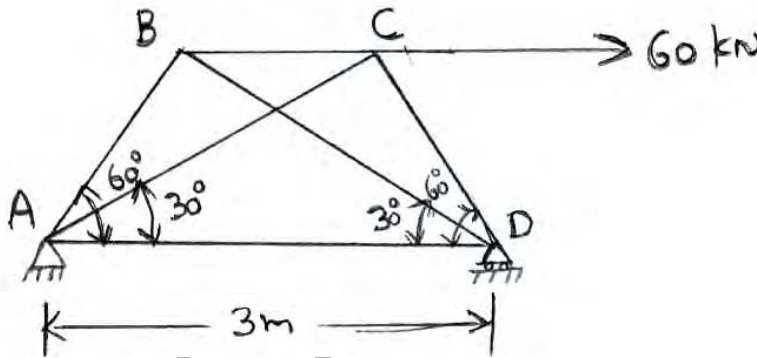

Figure 8
8. The pin-jointed truss shown in Figure 8 is having supports at A and D and is subjected to a horizontal force of 60 kN at C. Determine the forces developed in all members of the truss. Given cross-sectional areas of all members =  $6000 \text{ mm}^2$ , Young's Modulus  $200 \text{ kN / mm}^2$ . [16]